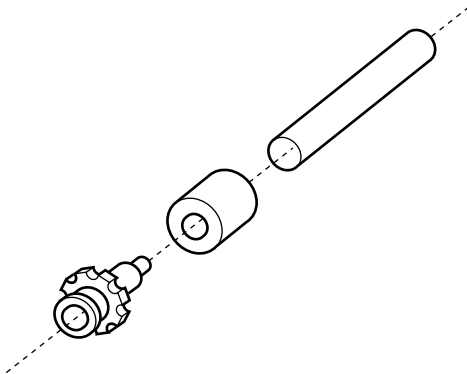

Figure 4-3. Attachment of tubing fittings.
2. Slip a lock-ring onto one end of the tubing. See below for the size and color of each lock-ring. Insert a barbed female luer fitting into the same end until the tubing reaches the flange of the fitting. Clamp the luer-fitting into place by sliding the lock ring along the tubing over the barbed fitting (see Figure 4-3). Repeat on the other end of tubing.